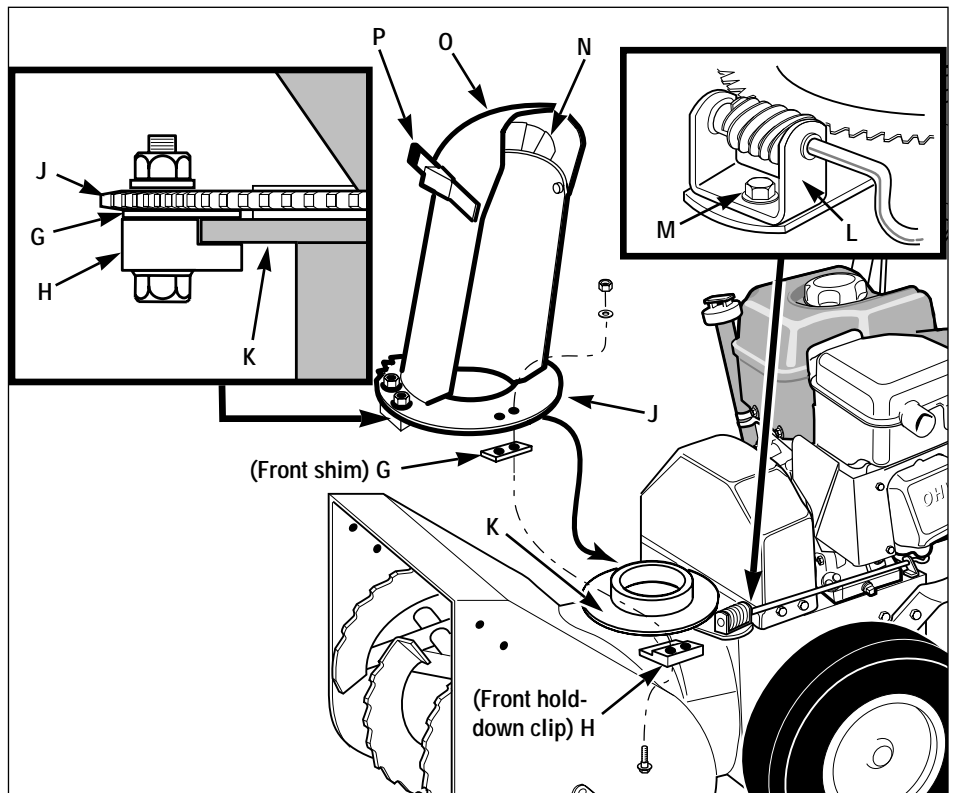
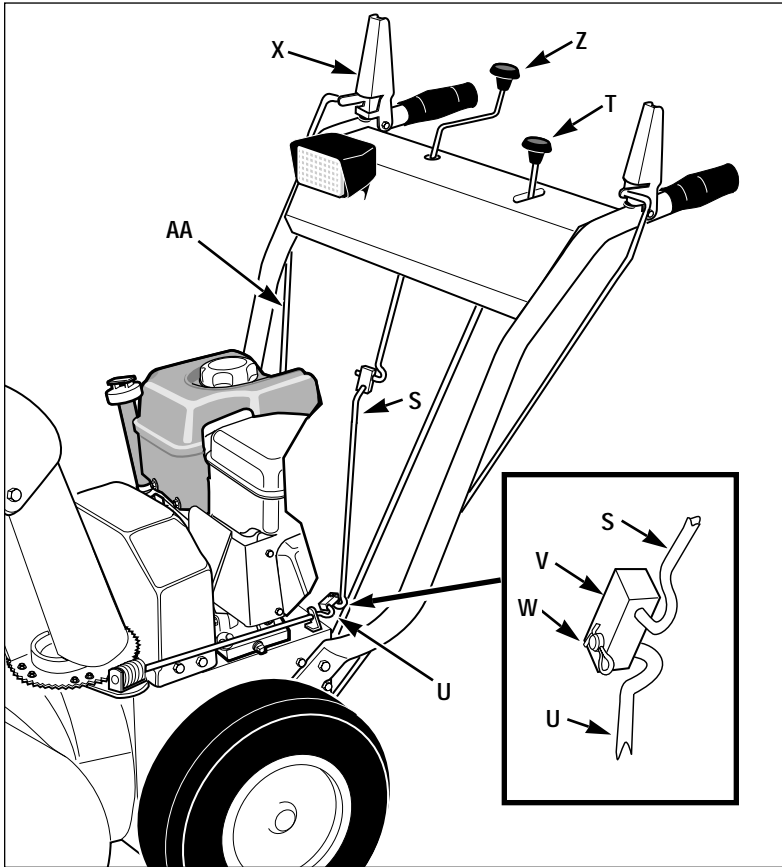
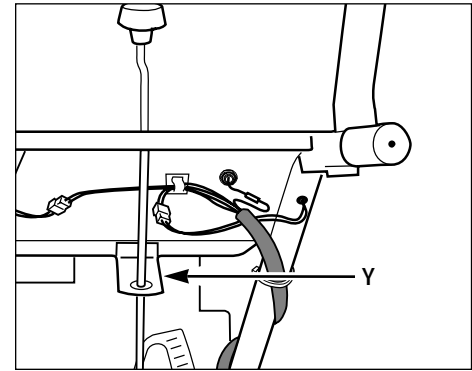
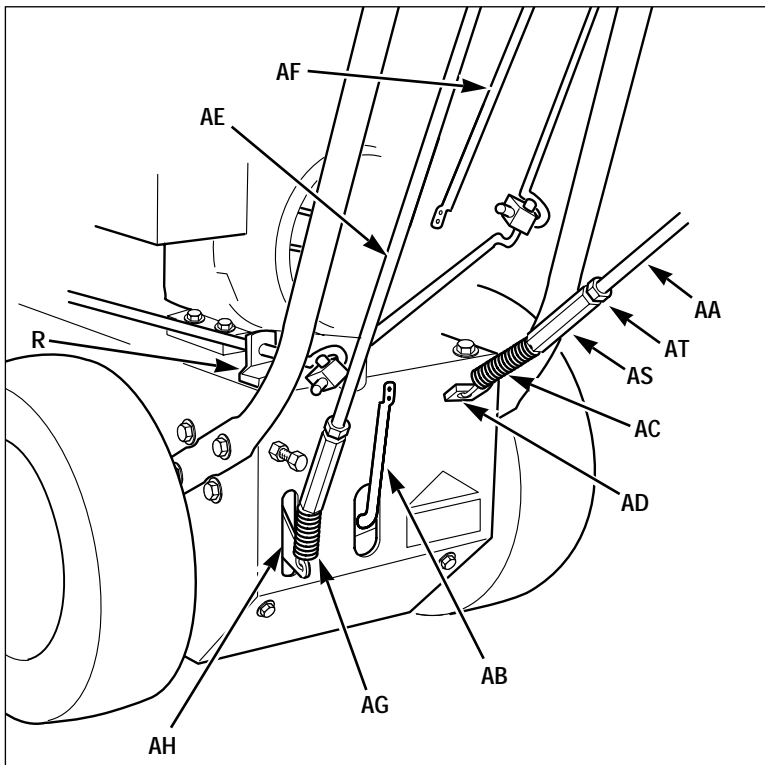

Figure 2-4
Figure 2-5
Figure 2-6
Figure 2-7
1. After removing cardboard carton, remove discharge chute (O, Figure 2-4) assembly (with attached hardware bag) from inside cardboard sleeve.
2. Loosen (do not remove) the left and right-side sets of plastic shims (G, Figure 2-4) and plastic hold-down clips (H) on the toothed flange (J) of the discharge chute assembly. Remove and save the remaining (front) hold-down clip, shim and mounting hardware.
3. From either side of the unit, slide the discharge chute onto the chute mounting flange (K, Figure 2-4), making sure that the plastic shims (G) are above the flange and the plastic hold-down clips (H) are below the flange. Tighten the clip mounting hardware securely (if necessary, rotate the discharge chute to the right to tighten the left-side clip).
4. Hook the front hold-down clip (H, Figure 2-4) under the mounting flange (K) and place the front plastic shim (G) on top of the hold-down clip, between the top of the flange and the toothed chute flange. Secure with the mounting hardware previously removed.
5. Remove the plastic tie that secures the worm gear assembly (L, Figure 2-4) to the mounting bracket.
6. Remove the washer and locknut from the screw (M, Figure 2-4) in the worm gear assembly (L). Position the worm gear assembly on the mounting bracket as follows:
- c. Reinstall the washer and locknut on the screw (M) and tighten securely.
7. Insert the flexible fins on the plastic snow deflector (N, Figure 2-4) inside the chute deflector cap (O). Close the deflector cap by pulling the lever (P) outward and moving the deflector cap down. Release the lever to secure the deflector cap in one of the discharge angle selector holes.
1. Remove the plastic tie that secures the auger drive control rod (AA, Figure 2-5) to the right handlebar. Next, remove the plastic tie that secures the chute crank rod (short rod with plastic swivel blocks) to the auger drive control rod.
2. Pull the chute crank rod (Z, Figure 2-5) up through the top of the control panel.
3. Attach the chute control rod sections (S and U, Figure 2-5) as follows:
- a. Insert the angled end of the chute control rod, (U, Figure 2-5 inset) into the hole in the swivel block (V) that is attached to the end of the chute crank rod (S).
- b. Insert a cotter pin (W) through the hole in the chute control rod (U) and spread the ends of the cotter pin.
4. Position the chute control rod support bracket (Y, Figure 2-6) against the underside of the handlebar console as shown. Secure the bracket with the two #10–24 x 3/8" Phillips pan head screws and #10–24 locknuts supplied.
5. Rotate the chute control crank (Z, Figure 2-5). The discharge chute should turn freely, but with enough resistance to prevent free rotation of the discharge chute during snow removal operation. Adjust the worm gear assembly bracket (L, Figure 2-4) as necessary to prevent binding.
1. Remove the plastic tie that secures the auger drive control arm (AD, Figure 2-7) to the transmission shift arm (AB).
2. The auger drive control rod (AA, Figure 2-7) has been pre-adjusted at the factory. To avoid misadjustment, do not rotate the jam nut (AT, Figure 2-7) while completing the following steps.
3. Hold jam nut (AT) in place with a 7/16" wrench and use another 7/16" wrench to thread the adjusting thimble (AS) downward a total of 12 turns.
4. Raise Auger Drive Control Lever (X, Figure 2-5) all the way up. Then hook the spring (AC, Figure 2-7) at the lower end of the auger drive control rod (AA) into the hole in the auger drive control arm (AD).
5. Thread the adjusting thimble (AS, Figure 2-7) upward until it contacts the jam nut (AT). Using two wrenches, tighten the jam nut against the adjusting thimble.
6. Check that the spring (AC) is under the correct amount of tension by performing Steps 2 through 5 of *Auger Drive Belt(s) Adjustment* in Section 5 of this manual.
1. Remove the plastic tie that secures the wheel drive control rod (AE, Figure 2-7) and the gear shift control rod (AF) to the left handlebar.
2. Hook the spring (AG, Figure 2-7) at the lower end of the wheel drive control rod (AE) into the hole in the wheel drive control arm (AH). If necessary, raise the wheel drive control arm (AH) while attaching the spring.
3. Check that the spring (AG) is under the correct amount of tension by performing Steps 1 through 4 of *Wheel Drive Disc Adjustment* in Section 5.
1. Place the Gear Shift Select Lever (T, Figure 2-5) in the No. 5 position.